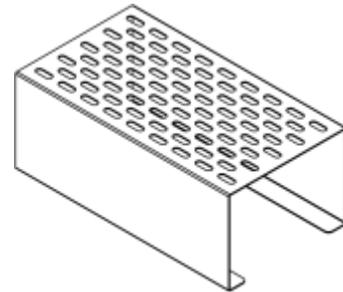

Figure 15
(1) Fixed position metal shelf, see Figure 15.